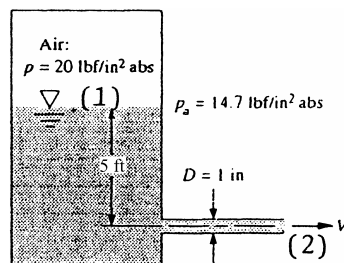

Fig. P3.163
3.163 The liquid in Fig. P3.163 is kerosine at 20°C. Estimate the flow rate from the tank for (a) no losses and (b) pipe losses $hf \approx 4.5V^2/(2g)$.